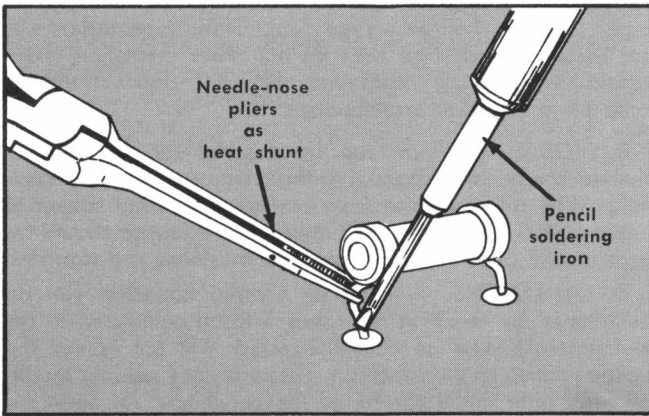

Fig. 4-3. Removing or replacing component on circuit board.
1. Grip the component lead with long-nose pliers. Touch the soldering iron tip to the lead at the solder connection. Do not lay the iron directly on the board, as it may damage the board. See Fig. 4-3.